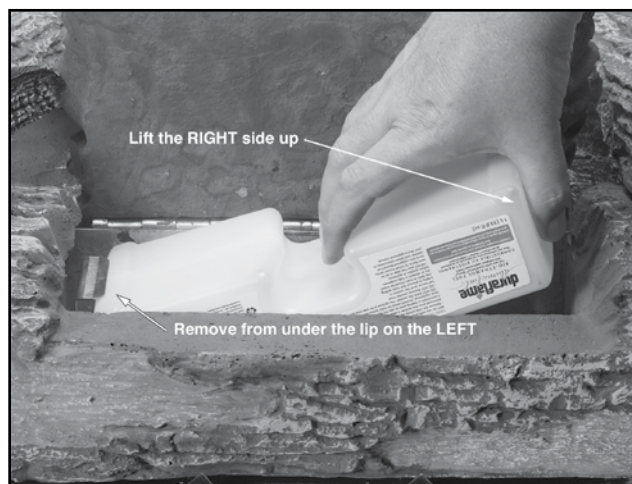

Figure 16
3. Grasp the empty canister by the notches provided in the canister body (see Figure 16). Pull it up and tip it so that it clears the bracket (make sure the left side of the canister is tipped so it is lower than the right side) and then lift it straight up to remove it. Keep the canister away from the flames. Keep canister tilted down on the left side while removing it. This will ensure that any small amount of fuel that may still be in the canister does not spill out.